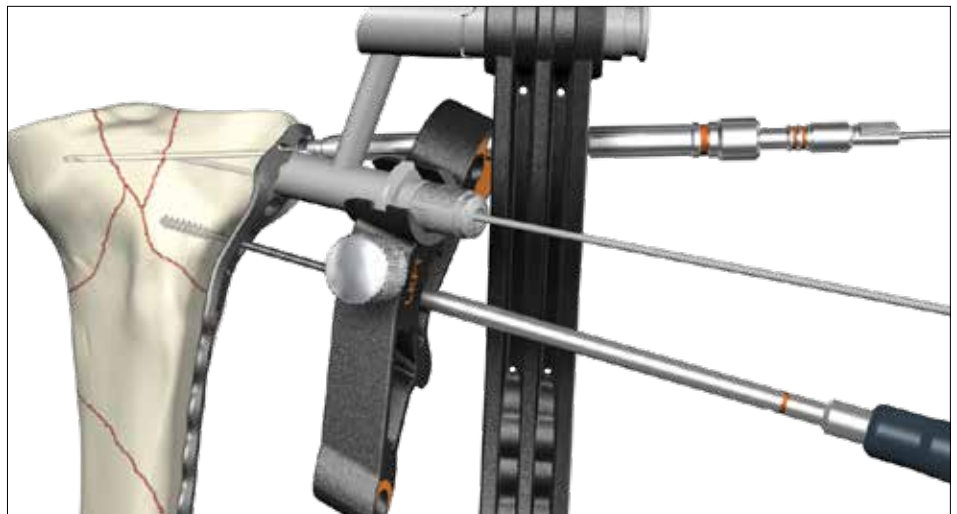

Fig. 12B
Remove the drill sleeve (ref 703572) and overdrill the first cortex using the cortical opener Ø3.5mm (ref 703590). A fully threaded cortical screw can then be inserted using the T15 screw driver Ø2.5mm (ref 703594) or the Screwdriver bit (ref 703595) (fig. 12B). If inserting a Ø4.0mm cancellous screw, it is recommended to pre-tap the near cortex using the corresponding tap (ref 703589).